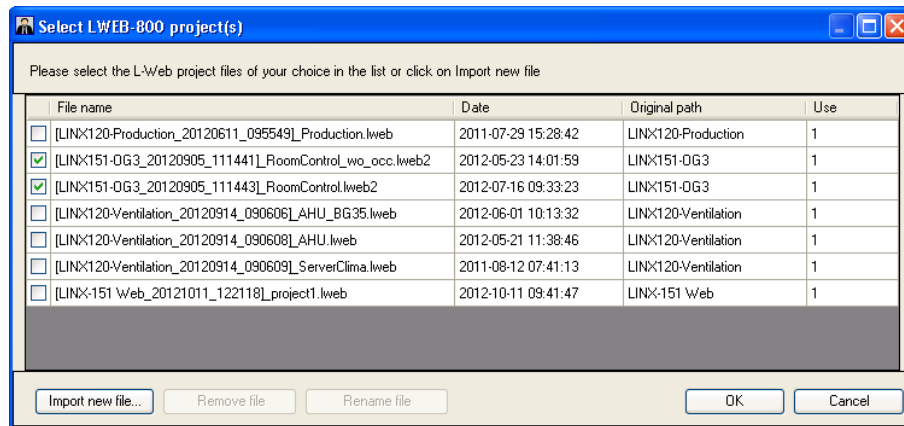

Figure 215: Select LWEB-800 Projects Dialog
3. The **Select L-Web projects** dialog opens as shown in Figure 215. The dialog displays a list of LWEB-800/802 projects available in LWEB-900. Use the checkboxes to assign LWEB-800/802 projects to the device(s) and press **OK**.